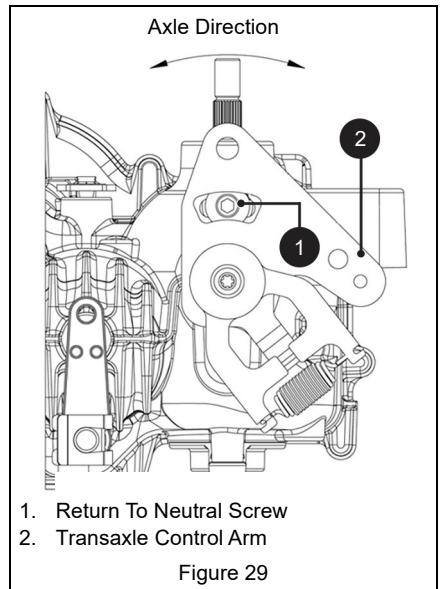

Figure 29
2. Slowly turn transaxle control arm in the opposite direction of hub rotation until hub stops. See Figure 29.